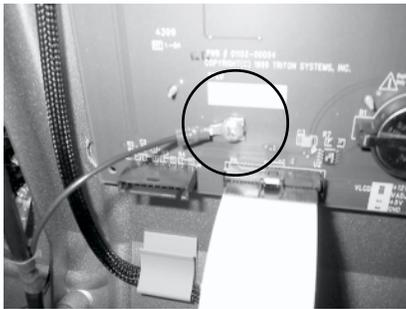

Figure 4. Connect Grounding Strap to SPED board mounting screw.
4. Connect the **third ring terminal** to the keypad board mounting screw, as shown in Figure 4.